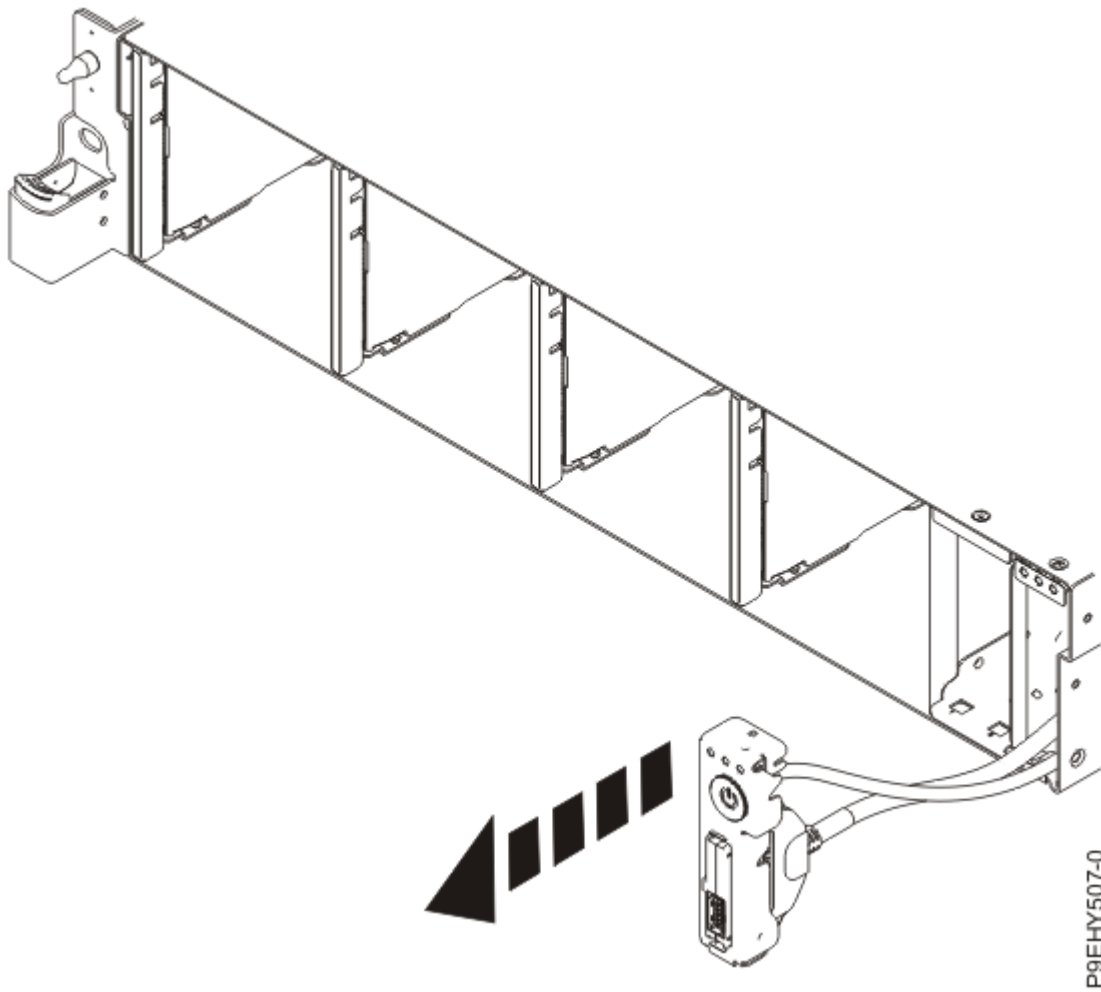

Figure 39. Pull out the power switch and cable
9. Pull the power switch from the system as shown in Figure 39 on page 55.